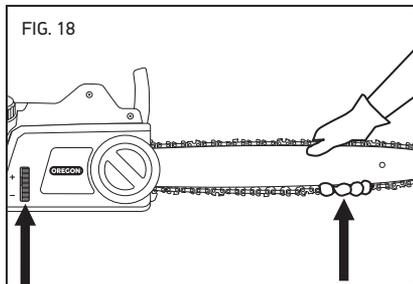

FIG. 18
- Hold up the nose of the guide bar (Fig. 18) and rotate the chain tensioning dial up to tighten.